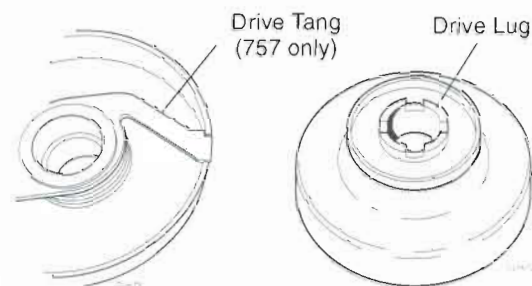

Figure 11.8 Oil Pump Drive Systems
- Inspect the oil pump drive lugs for condition (tang used on Model 757). Figure 11.8.